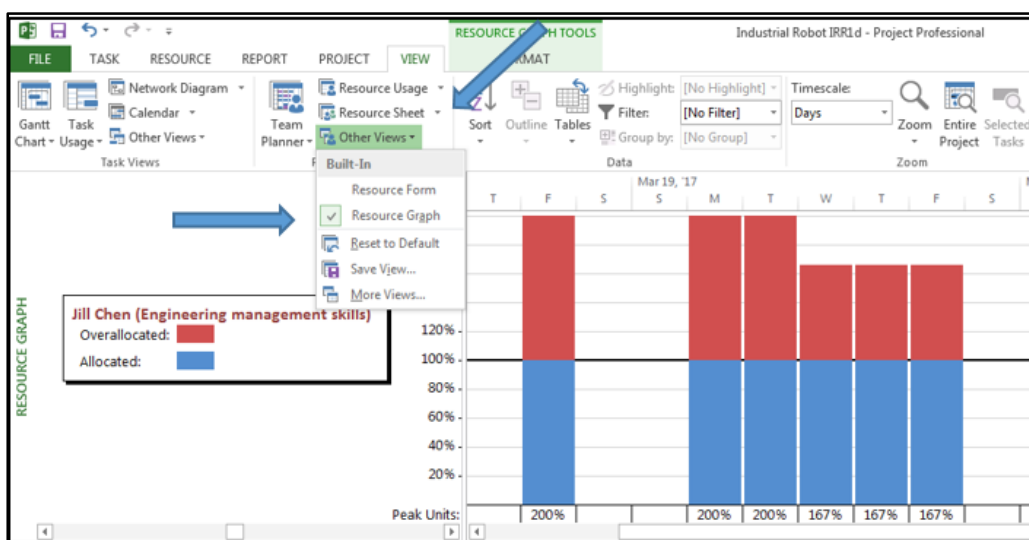
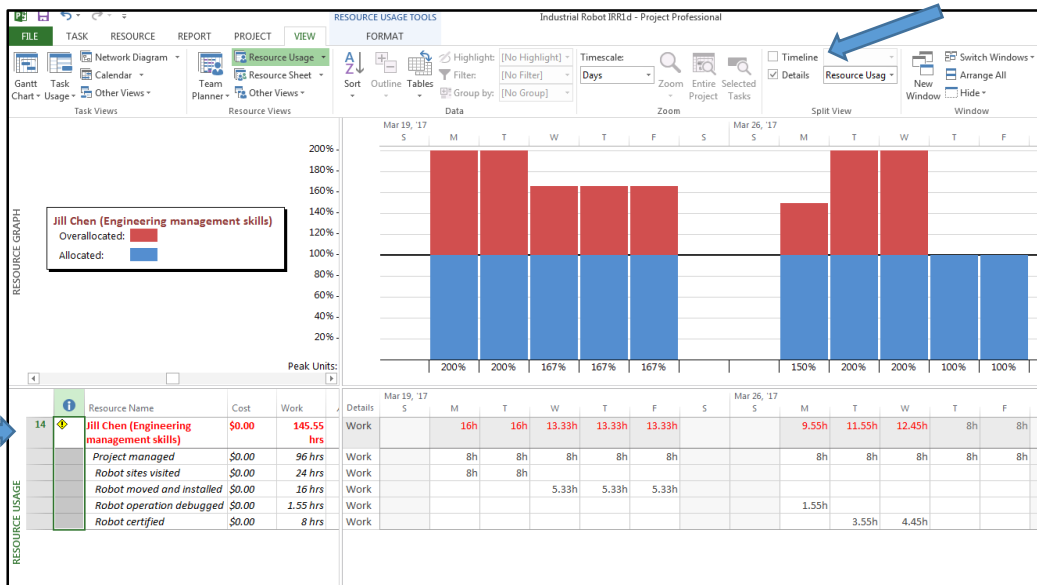

Figure 28A
Figure 28B
- To see when resources are overloaded, select View, Other Views, Resource Graph from the drop-down (Figure 28A). Select Details and from the drop-down select Resource Usage to split the screen. This will show who is overallocated for what tasks, when they are overallocated, and by how much (Figure 28B). Use Page Down or scroll to move from one over-allocated resource to the next, if needed.